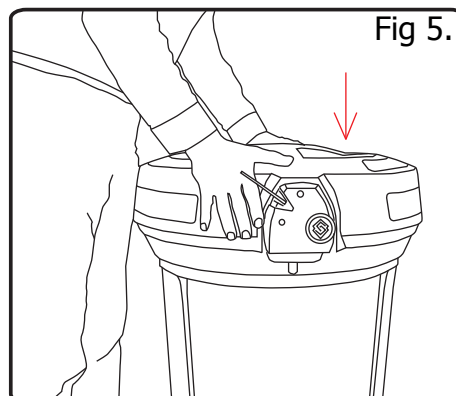

Fig 5.
2. Place the lid on the bin and push down to secure in place (fig 5).